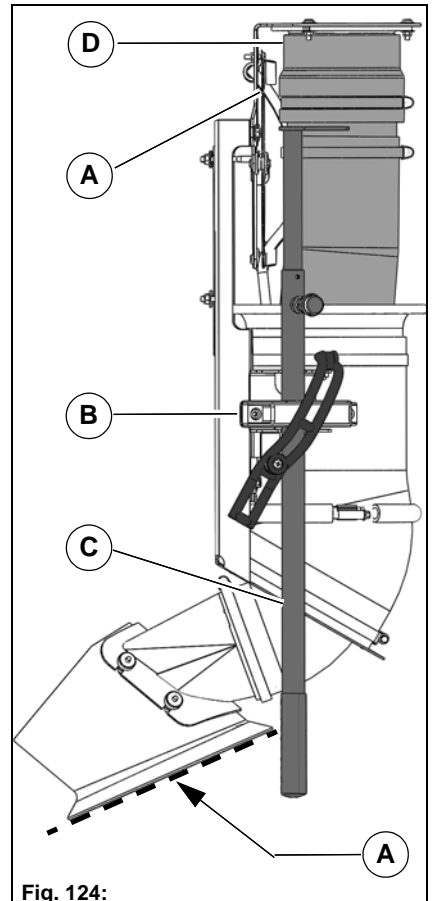

Fig. 124:
The 4 metre long hand suction hose **Fig. 124-D** is used for effectively cleaning places difficult to reach.
2. If necessary take the insert plate **Fig. 124-A** out from the holder and push it under the rubber seal.
3. Loosen the lock **Fig. 124-B** and pull the hand suction hose down and out from the holder.
4. Hold the hand suction hose with the handle **Fig. 124-C** and clean the surface. If required, adjust the handle rod to length with the locking bolt. After cleaning push the hand suction hose against the holder. The hand suction hose withdraws automatically due to the vacuum.